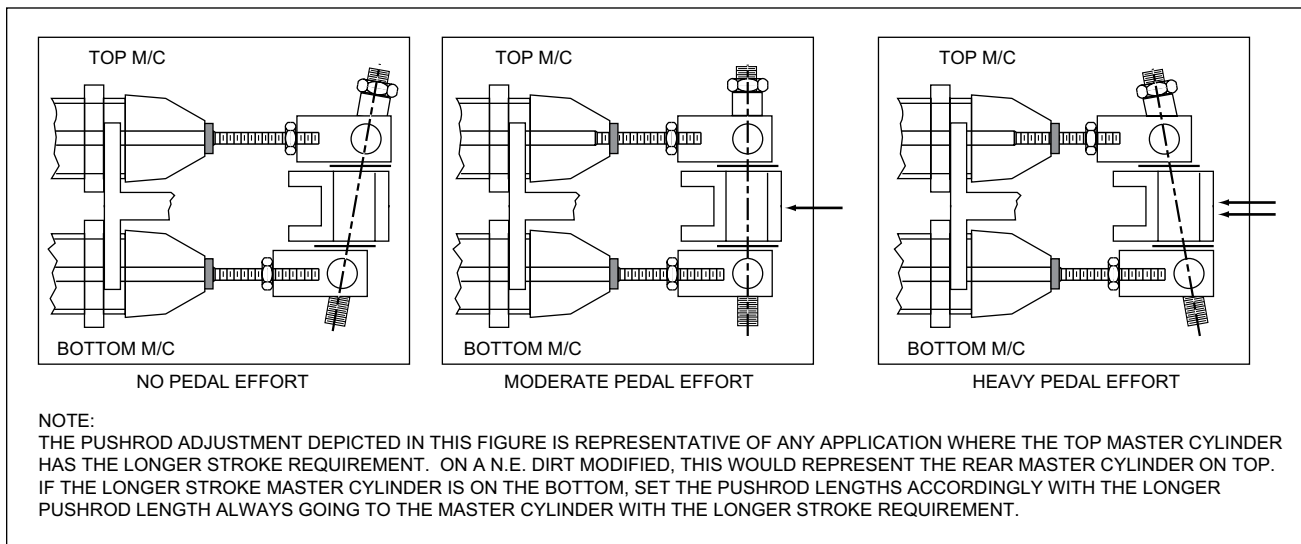

Figure 3. Push Rod Length Adjustment
- For vehicles with different caliper or master cylinder sizes between front and rear, the pushrod lengths must be adjusted to compensate for the difference in master cylinder stroke lengths that occur when using differently sized components within the system. These pushrod length adjustments are necessary to prevent bind in the balance bar bearing that could otherwise be caused by excessive misalignment angle in the bar. See Figure 3.